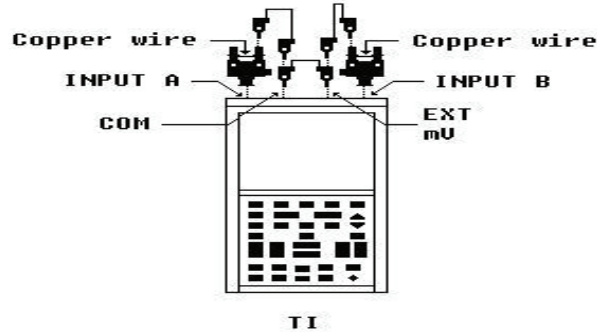

Figure 9. Input short.
- (3) Press pushbutton **BACKLIGHT** (sun shaped pushbutton just below **SPECIAL FUNCT** key) with **AUTO SET** together, then release.
- (4) Set calibrator to produce + 12 V dc.
- (5) Press **(F4) CALIBRATE SCOPEMETER.**
- (6) Displayed are the numbers of calibration memories free. Press **(F1) CLOSE** to display **CONTRAST, SCOPE, METER, ESCAPE, and CAL STORE**.
- (7) Press **(F2) SCOPE** to display/highlight **SCOPE and CAL 1**.
- (8) Set calibrator to standby.
- (9) Remove +12 V dc from calibrator to TI.
- (10) Connect equipment as shown in figure 9 below: